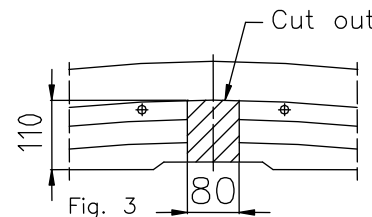

Fig. 3
3. To the left and right chassis member slip sleeve $L=85$ mm (pos. 10), see fig.
4. To drilled holes put sleeves $L=51,5$ mm (pos. 9).
5. To the inside of chassis members and rear part of the car put brackets (pos. 4 and 5) and fix using bolts $M10 \times 120$ mm (pos. 11) through sleeves and bolts $M10 \times 35$ mm (pos. 13) through nuts on the jib (pos. 8).
6. Put the main bar of the towing hitch (pos. 1) on protruding elements (bolts) of removed metal reinforcement and fix using original nuts $M8$ (from reinforcement) and using $M10 \times 90$ mm (pos. 12) - see fig.
7. Elements of the towing hitch (pos. 6 and 7) fix loosely to the original tow handle, and next through holes (pos. A) of ball brackets fix using bolts $M10 \times 30$ mm (pos. 14).
8. Fix body of the automat and place tow-ball according to supplied instruction. Note! Remember to place socket plate (pos. 3) as shown on the drawing 1.
9. Assemble a cover plate and a bumper (cut out its fragment – see fig. 3 and 4).